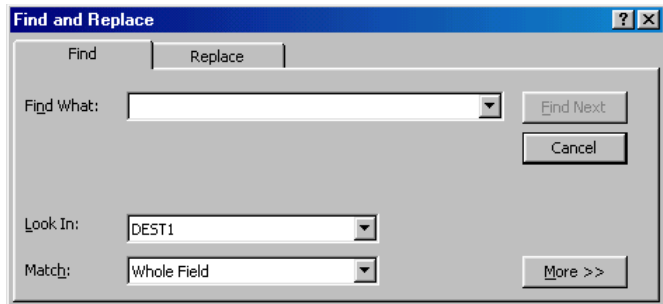

Figure 3-20
2. Click **Find**. The Find and Replace dialog box appears (Figure 3-20):